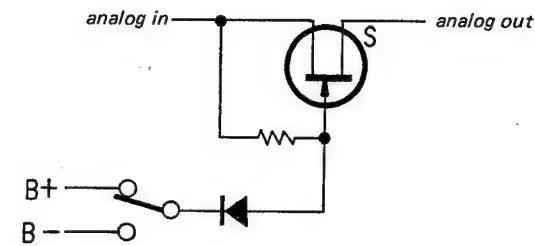

Fig. 12
- Circuit diagram of PS-X800 is shown in Fig. 12.